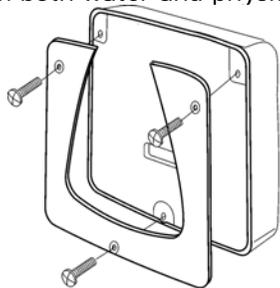

Fig. 1
1. Using the three supplied M4 bolts attach the back plate to the rear of the Hull Transmitter. (Fig. 1)